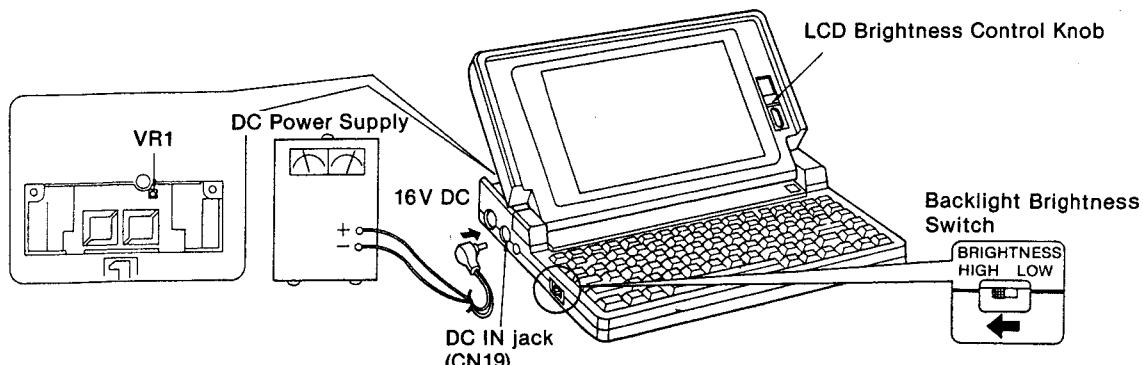

Figure 5-2
- 1-1) Apply 16V DC to the connector CN19 (DC IN Jack) with DC power supply as shown in Figure 5-2.